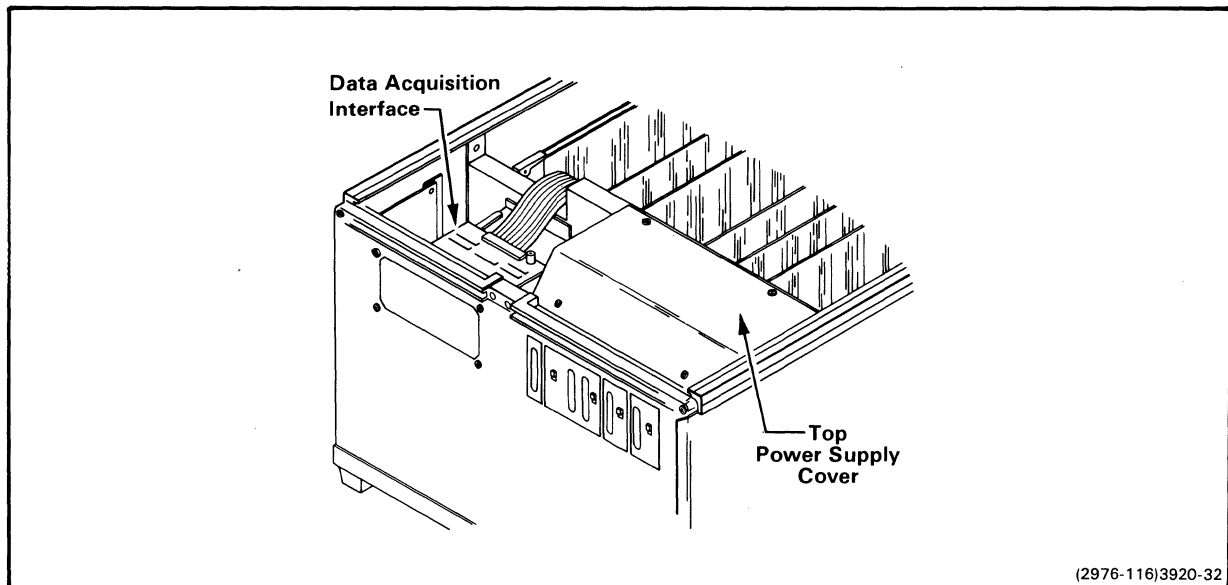

Fig. 14-7. 8540 with top cover removed.
2. The optional Data Acquisition Interface (DAI) board is shown in Fig. 14-7. It is fastened to the 8540 back panel by four screws. If this option is installed, locate and remove the DAI. When removing the ribbon cable and connector attached to the DAI, handle the cable carefully to avoid damaging the cable connected to the Trigger Trace Analyzer (TTA).
4. Locate and remove the power supply cover, as shown in Fig. 14-7. This cover is held in place by four screws. After you remove the cover, all three power supplies are now visible. The  $-/+12$  Vdc supplies are mounted together, against the rear of the card cage. The  $+5$  Vdc unit is mounted on the bottom of the chassis.